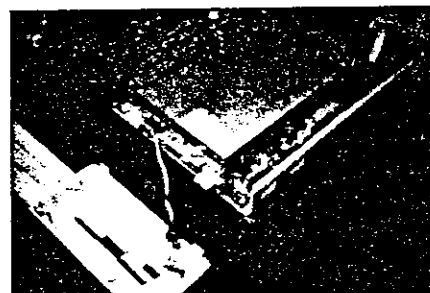

Fig. 2-10. Stand-Off Locations
**2.5.1** Remove the 4 brass stand-offs located at the connectors J10 and J11 at board locations T1, T2, T3, T4. See Fig. 2-10.